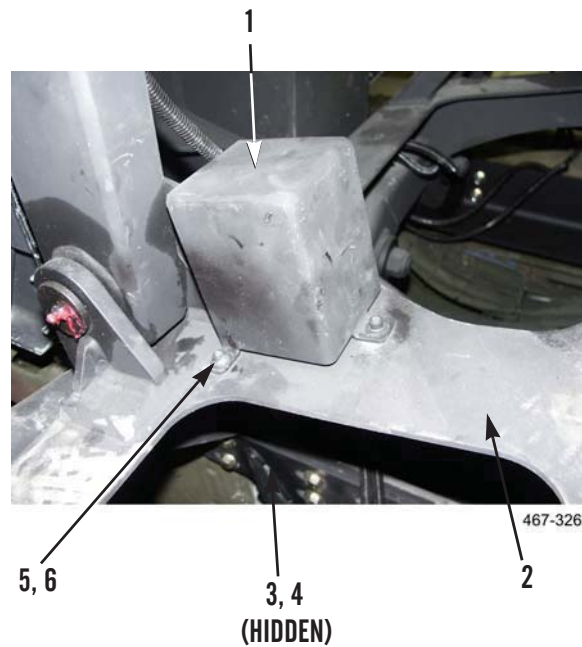

Figure 6. Sensor Cover Installation.
10. When calibration is complete, install sensor cover (Figure 6, Item 1), three bolts (Figure 6, Item 5), washers (Figure 6, Item 6), washers (Figure 6, Item 3), and new locknuts (Figure 6, Item 4) on stowage assembly (Figure 6, Item 2).